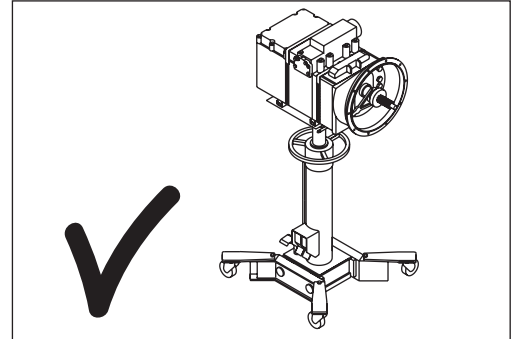

Fig. 3:
- the centre of mass of the load lies inside the base area of the lift and inside the area of the gear plate (Fig. 3)